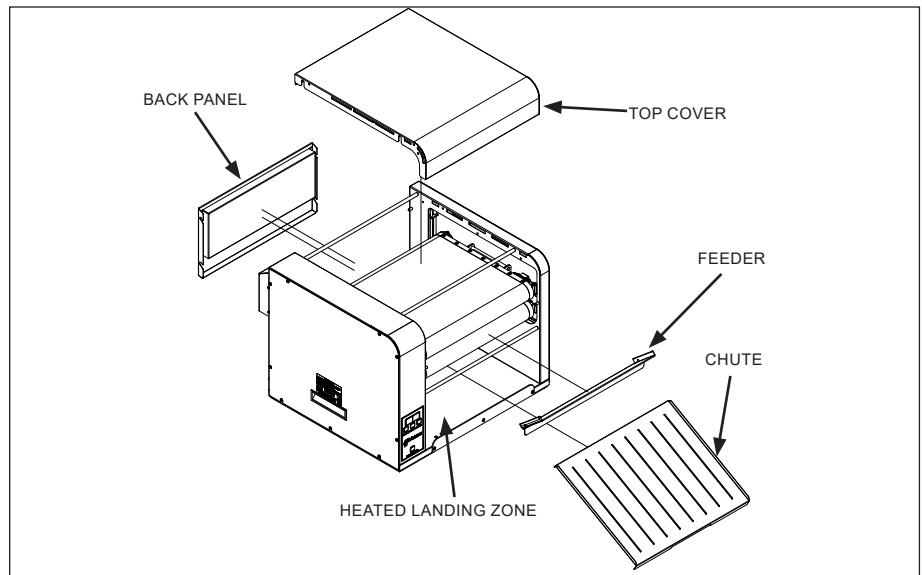

Figure 3. Components
7. Attach the top cover, feeder and chute (Figure 3).
2. Put on heat resistant gloves. Remove the Top Cover, Feeder, and Chute (Figure 3).
6. Reinstall all accessories (Figure 3).
3. Wearing heat resistant gloves, remove the Top Cover, Feeder, and Chute and set aside (Figure 3).